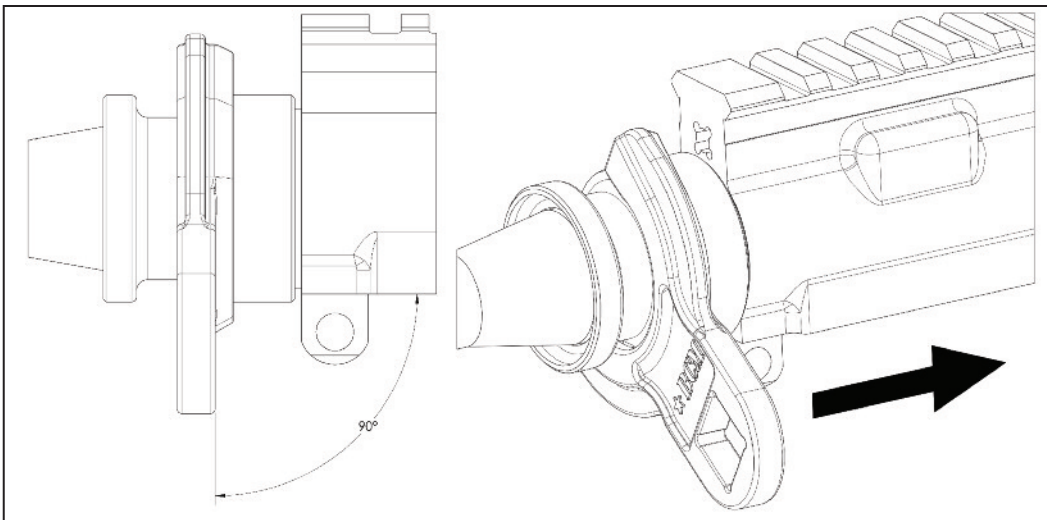

Figure 5
6. Using the included wrench and a ½" drive torque wrench (see **Figure 5** for proper alignment and direction), properly align wrench and torque the KMR barrel nut to 20-30 ft-lbs while applying pressure to the wrench in the direction shown. and then loosen the barrel nut. Repeat this process a minimum of 4 times for optimal thread engagement and fit. **NEVER use the torque wrench for loosening the barrel nut. Final installation of the KMR barrel nut should be 40-50 ft-lbs.**